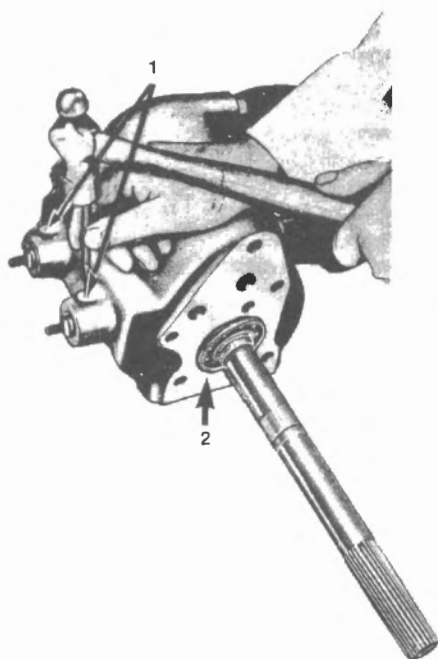

Fig. L-11
- 10 Remove both gearshift levers from camshafts. From the underside of the gearshift camshaft boss on the transmission housing, drive out the taper pins from each gearshift camshaft. Fig. L-11.